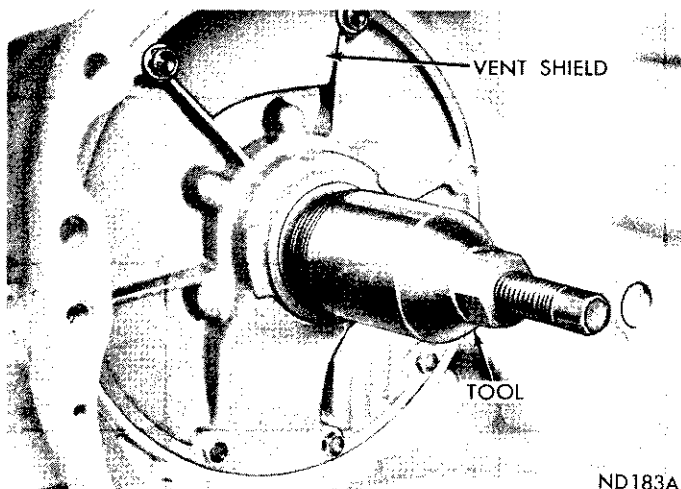

Fig. 32—Removing Pump Oil Seal
(1) Screw seal remover, Tool C-3861 into the seal (Fig. 32). Tighten screw portion of tool to withdraw the seal.